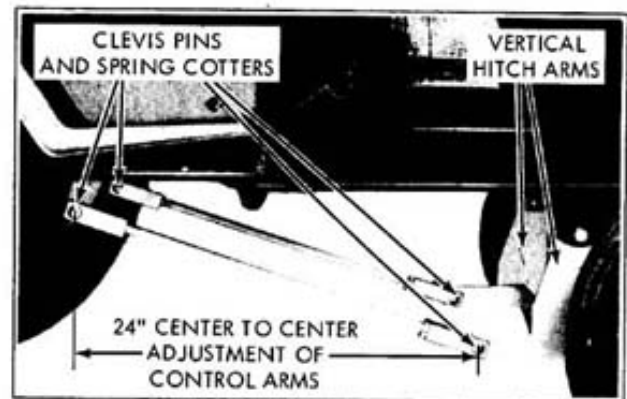

FIGURE 5
(2) Next secure the two vertical hitch arms to the tractor implement hitch-arms with the two 2-1/8 x 5/8" clevis pins and spring cotter provided, as shown in Fig. 5.
(3) With tractor selector lever in the PARK position, start tractor and pull implement lift lever down into the float position.
(4) Shut off engine and attach the two control arms to the tractor lift arms with clevis pins and spring cotters. Adjust right hand control rod so that there is 24" between center lines of clevis mounting holes and secure to the right hand horizontal hitch arm with clevis pin and spring cotter as shown in Fig. 5. Adjust left hand control rod as required and secure to left hand hitch arm with remaining clevis pin and spring cotter.
(5) Start engine and raise unit to the maximum height. Check for front frame casting vs. universal